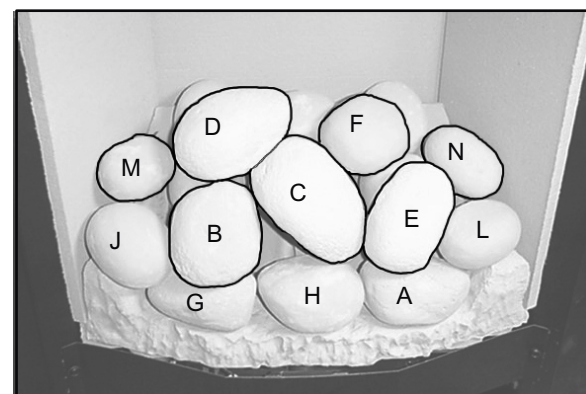

Fig 28a
Finally position pebbles (D) & (F) as shown in fig 28a.